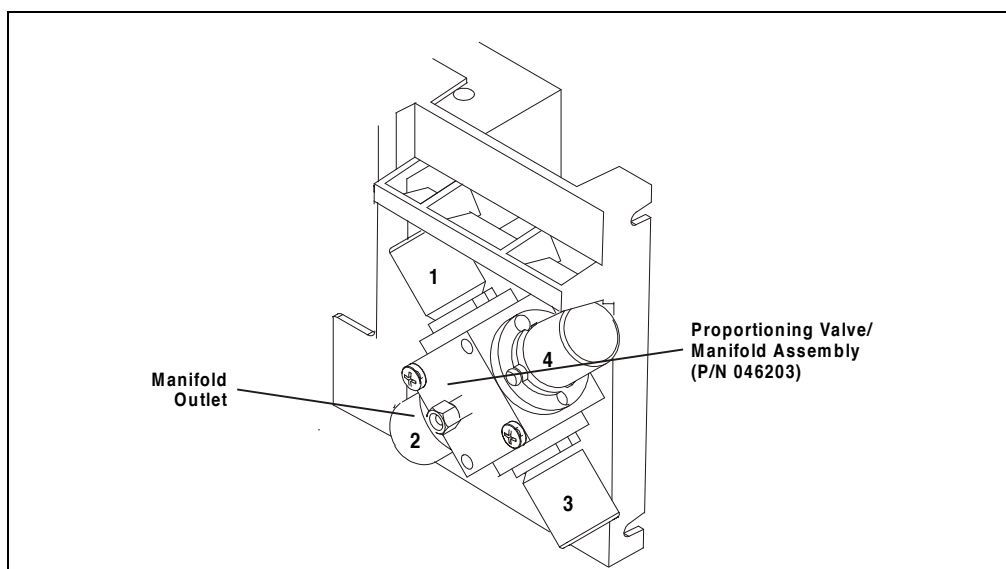

Figure 5-7. Location of Proportioning Valve/Manifold Assembly
4. Disconnect the liquid line from the manifold outlet (see Figure 5-7).
5. Loosen the screws securing the proportioning valve/manifold assembly to the bulkhead (see Figure 5-7). Pull the valve/manifold assembly forward and disconnect the eluent lines on the manifold inlet. Remove the valve/manifold assembly completely from the bulkhead.
8. Align the new assembly as shown in Figure 5-7 and mount it to the bulkhead. Tighten the screws.